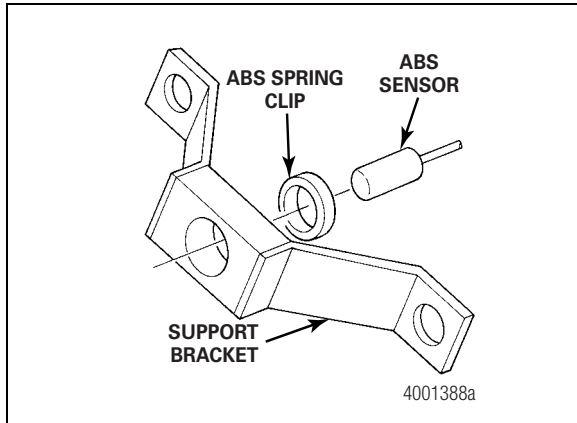

Figure 3.17
- Use hand pressure to disassemble the ABS sensor from the ABS spring clip and the ABS support bracket. Figure 3.17.